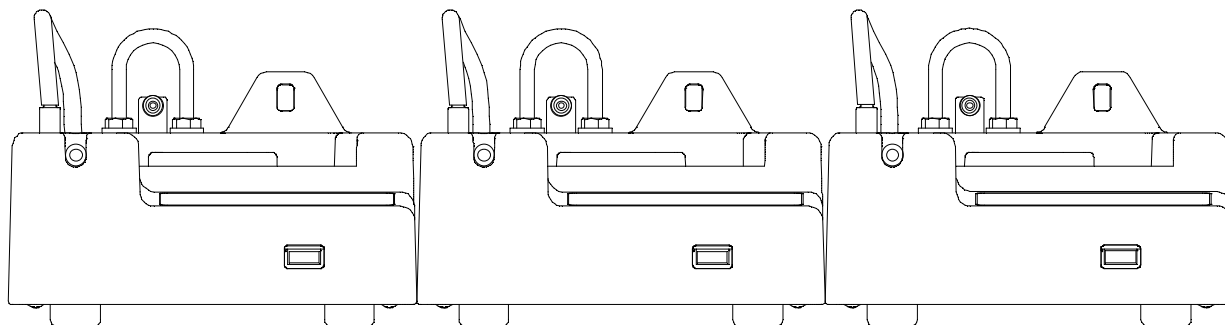

Figure 10: SDM-E2 Arrangement
2. If you have more than one SDM-E2, arrange them side by side as shown in Figure 10 below.